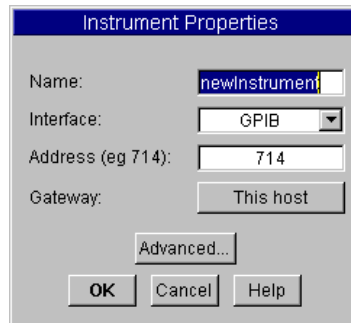

Figure 3-7. Instrument Properties Dialog Box
2. In the Instrument Manager dialog box, make sure My Configuration is highlighted, and click Add . . . under Instrument. The Instrument Properties dialog appears, as shown in Figure 3-7.